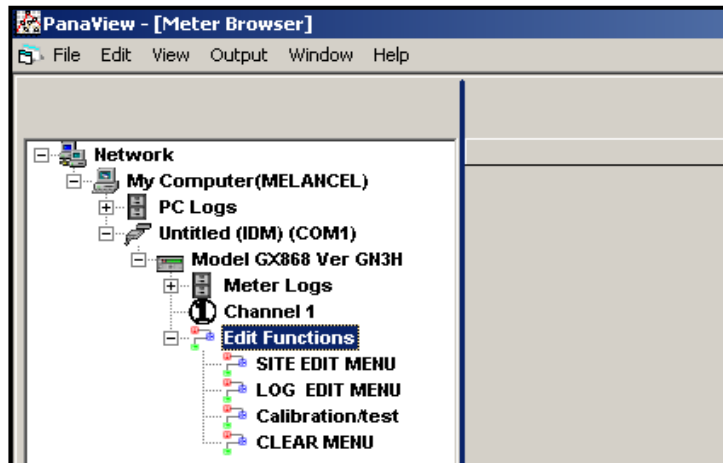

Figure 35: Meter Tree with *Edit Functions* Option
4. From the meter tree, expand the *Edit Functions* option. The window now appears similar to *Figure 35* below, with a list of available menus. The menus listed are those available on the meter.